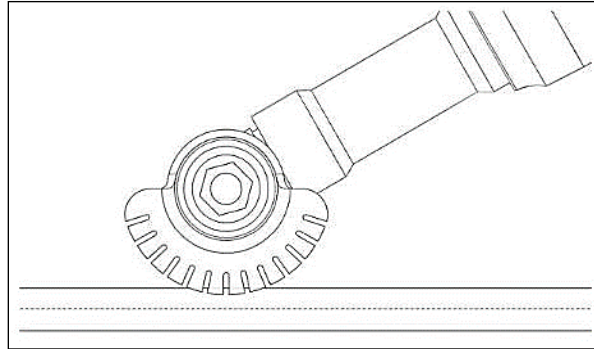

Figure 4. Initial Gap Filler Engagement
- 3.2.1. Place the cutting edge of the GFR-Disc/Blade above gap filler to be removed. Fully depress the lever on the pneumatic oscillating saw. Once the saw reaches operating speed, slowly plunge the GFR-Disc/Blade into the gap filler until approximately one quarter of the depth of the teeth on the GFR-Disc/Blade is engaged in the gap filler to be removed. See **Figure 4**.